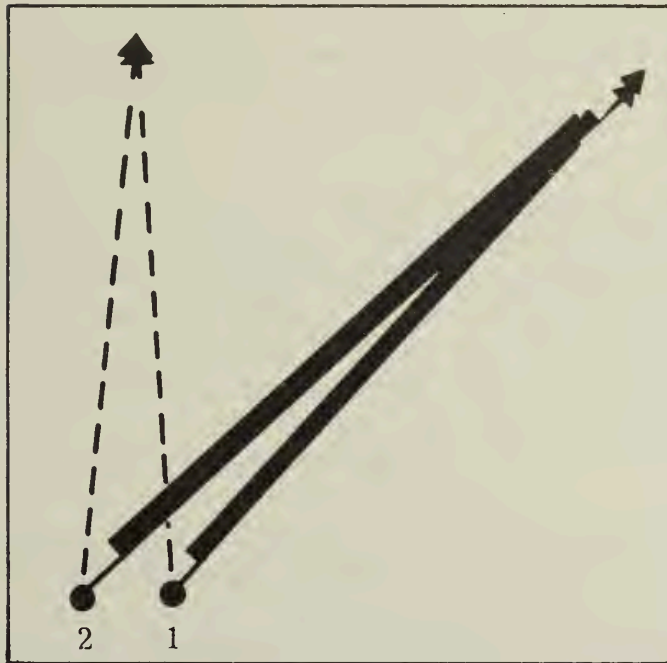

Figure 125. --Squad Sector of Fire and FPL.
(4) Employment by Squad. --As previously stated, machineguns are employed by squad whenever possible. On defensive overlays, the sector of fire of only one gun of the squad is shown, the other gun's position is recorded as a dot. When a squad has been given a final protective line, both guns are laid on generally the same line. This is accomplished by laying one gun on the final protective line and laying the other on a distant point on the base gun's FPL. (See fig. 125.) The same technique is used to establish sector limits and principal directions of fire.